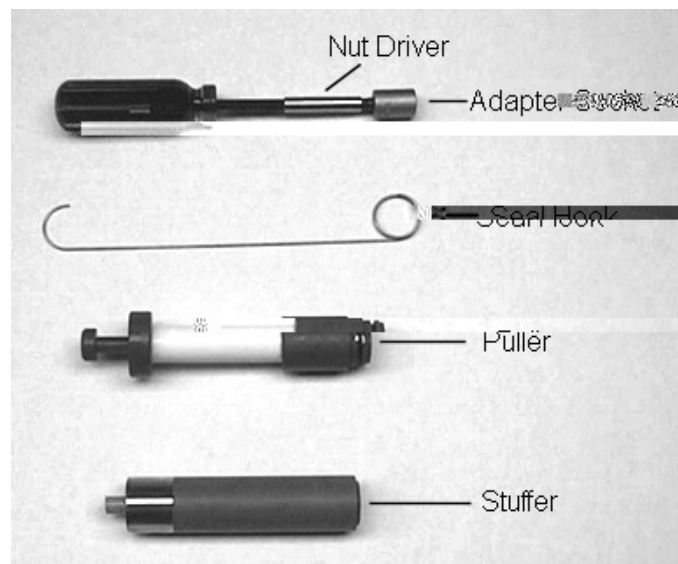

FIGURE 5
11. **Problem:** The brine tube is not properly seated in the injector. **Reason:** The brine tube is not properly seated in the injector. **Correction:** The brine tube is not properly seated in the injector. (See Figure 5).